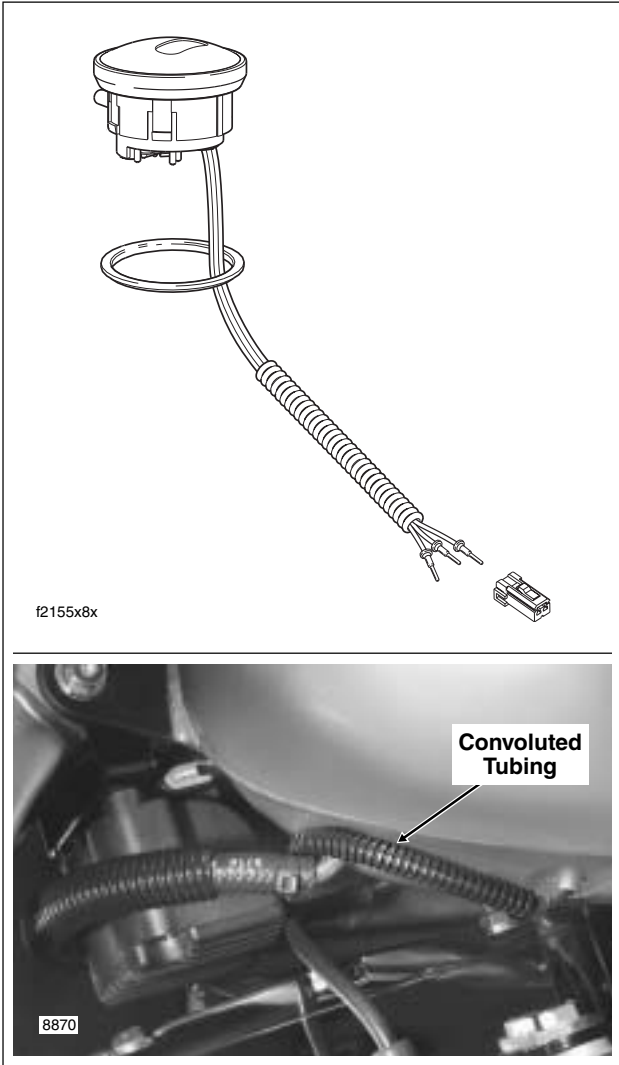

Figure 8-116. Fuel Gauge (FLHR/C/S)
6. Route pin housing and convoluted tubing forward and then inboard between front of crossover hose fitting and bottom of fuel tank. Mate pin and socket halves of fuel gauge connector [117], 4-place Multilock. Feed connector into tunnel of fuel tank. See lower frame of Figure 8-116.